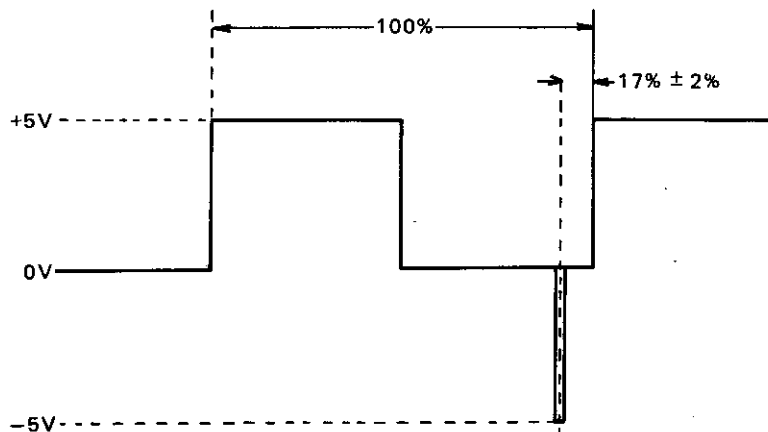

Fig. 5 Synchronized waveform
Connect the probe and ground of an oscilloscope to TP (3) and TP (1) of the turntable servo control P.W. board (KU-317/320) respectively. Observe waveform and adjust VR1 for 33rpm and VR 2 for 45rpm so that the waveform becomes as shown in Fig. 5.